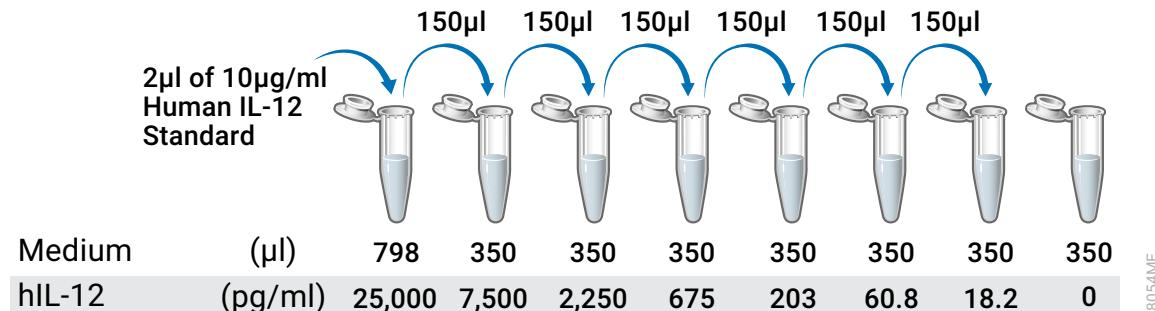

Figure 3. Human IL-12 dilution series.
3. Prepare an initial concentration of 25,000pg/ml human IL-12 by diluting Human IL-12 Standard (10 μ g/ml) 1:400 in prewarmed cell culture medium. For example, prepare 800 μ l of 25,000pg/ml human IL-12 by adding 2 μ l of the Human IL-12 Standard stock to 798 μ l of culture medium (see Figure 3).
3. Prepare an initial concentration of 25,000pg/ml human IL-12 by diluting the Human IL-12 Standard (10 μ g/ml) 1:400 in prewarmed cell culture medium. For example, prepare 800 μ l of 25,000pg/ml human IL-12 by adding 2 μ l of the Human IL-12 Standard stock to 798 μ l of culture medium (Figure 3).